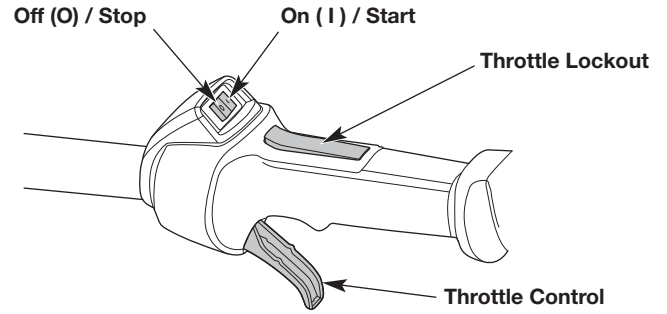

Fig. 6
- NOTE:** There is no need to turn the unit on. The On/Off switch is in the ON (I) position at all times (Fig. 6).
6. **DO NOT** squeeze the throttle control (Fig. 6). Pull the starter rope with a controlled and steady motion until the unit starts (Fig. 9).
7. Idle the engine for 5 to 10 seconds. If the unit stops during this time, press the throttle lockout, squeeze the throttle control and pull the starter rope in a controlled and steady motion until the unit starts (Fig. 6).
8. Press the throttle lockout and squeeze the throttle control (Fig. 6). Allow the engine to warm up for 30 to 60 seconds.
2. Press and hold the On/Off switch in the OFF (O) position until the engine comes to a complete stop (Fig. 6).
NOTE: There is no need to turn the unit on. The On/Off switch is in the ON (I) position at all times (Fig. 6).
7. **DO NOT** squeeze the throttle control (Fig. 6). Run the electric start accessory in intervals no longer than 2 seconds each until the unit starts.
8. Idle the engine for 5 to 10 seconds. If the unit stops during this time, press the throttle lockout, squeeze the throttle control and run the electric start accessory in intervals no longer than 2 seconds each until the unit starts (Fig. 6).
10. Press the throttle lockout and squeeze the throttle control (Fig. 6). Allow the engine to warm up for 30 to 60 seconds.